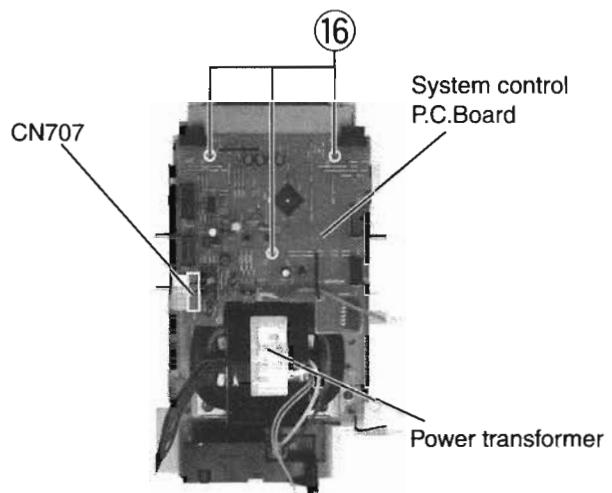

Fig.28
■ Removing System control P.C.Board (see Fig.28)
1. Remove the three screws ⑯ attaching the system control P.C.Board.